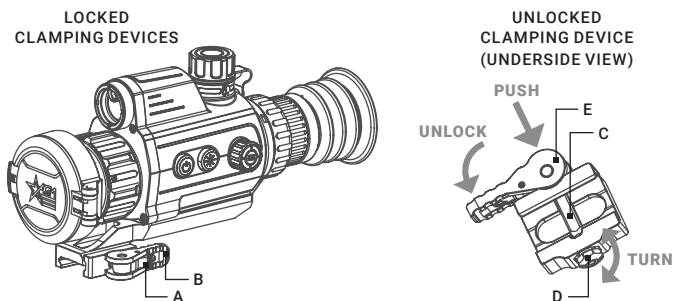

FIGURE 2-5. MOUNT
To install the VarmintV² LRF with quick release mount to a Picatinny/Weaver rail, perform the following (Figure 2-5):
- With the clamping device unlocked (as shown in Figure 2-5), push the cam (E) towards the arrow, which will cause the nut (D) to slide out of its hole.
- To tighten/ loosen the clamping device, push down on the cam (E) and turn the nut (D) CW/ CCW respectively, in one-two increments (see note below). Much like when the cam (E) is released, backward-moving spring will cause the nut (D) to slide back into its hole.